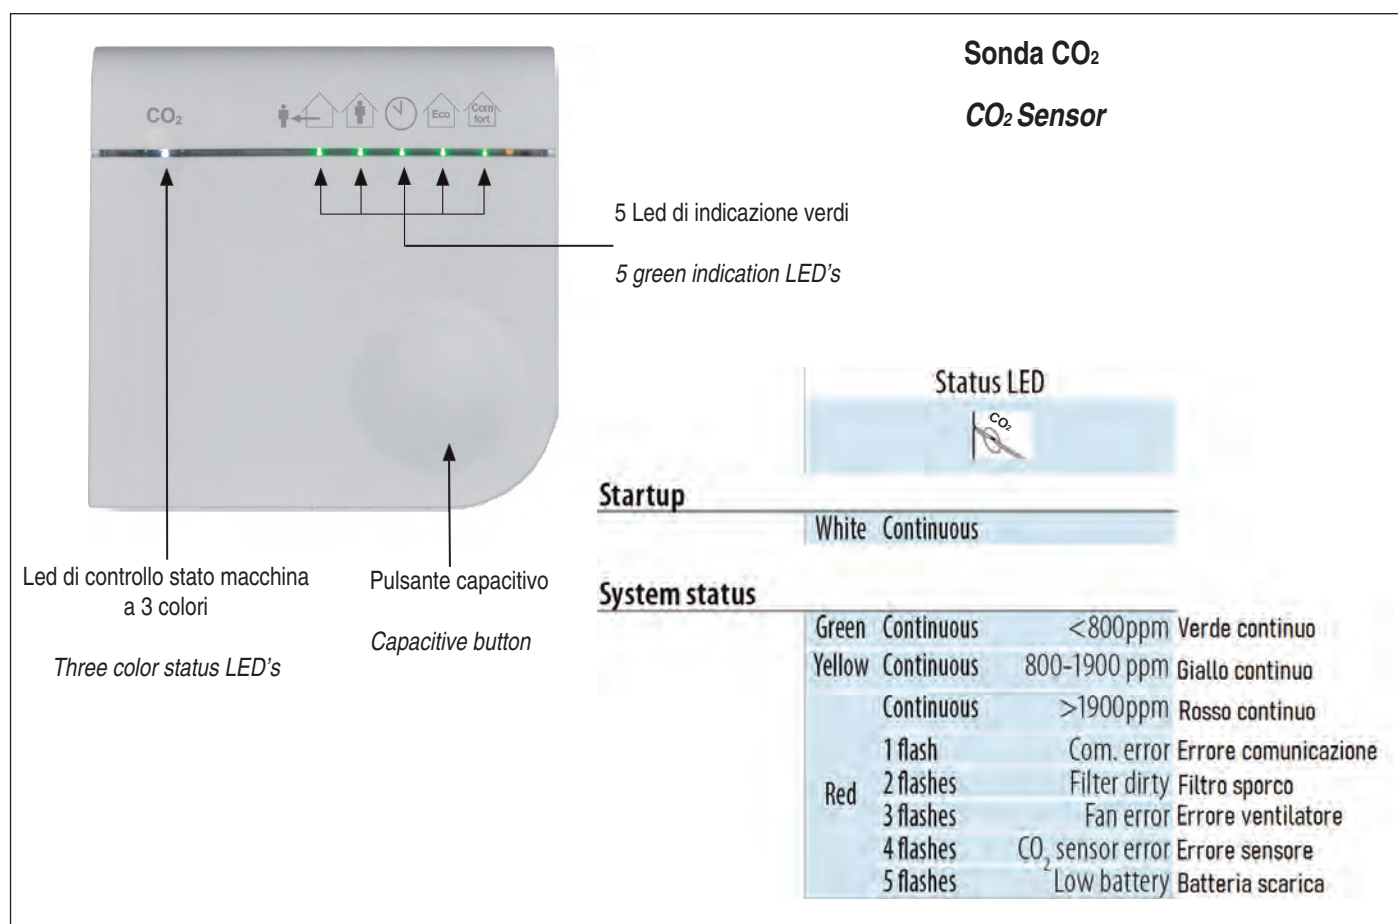
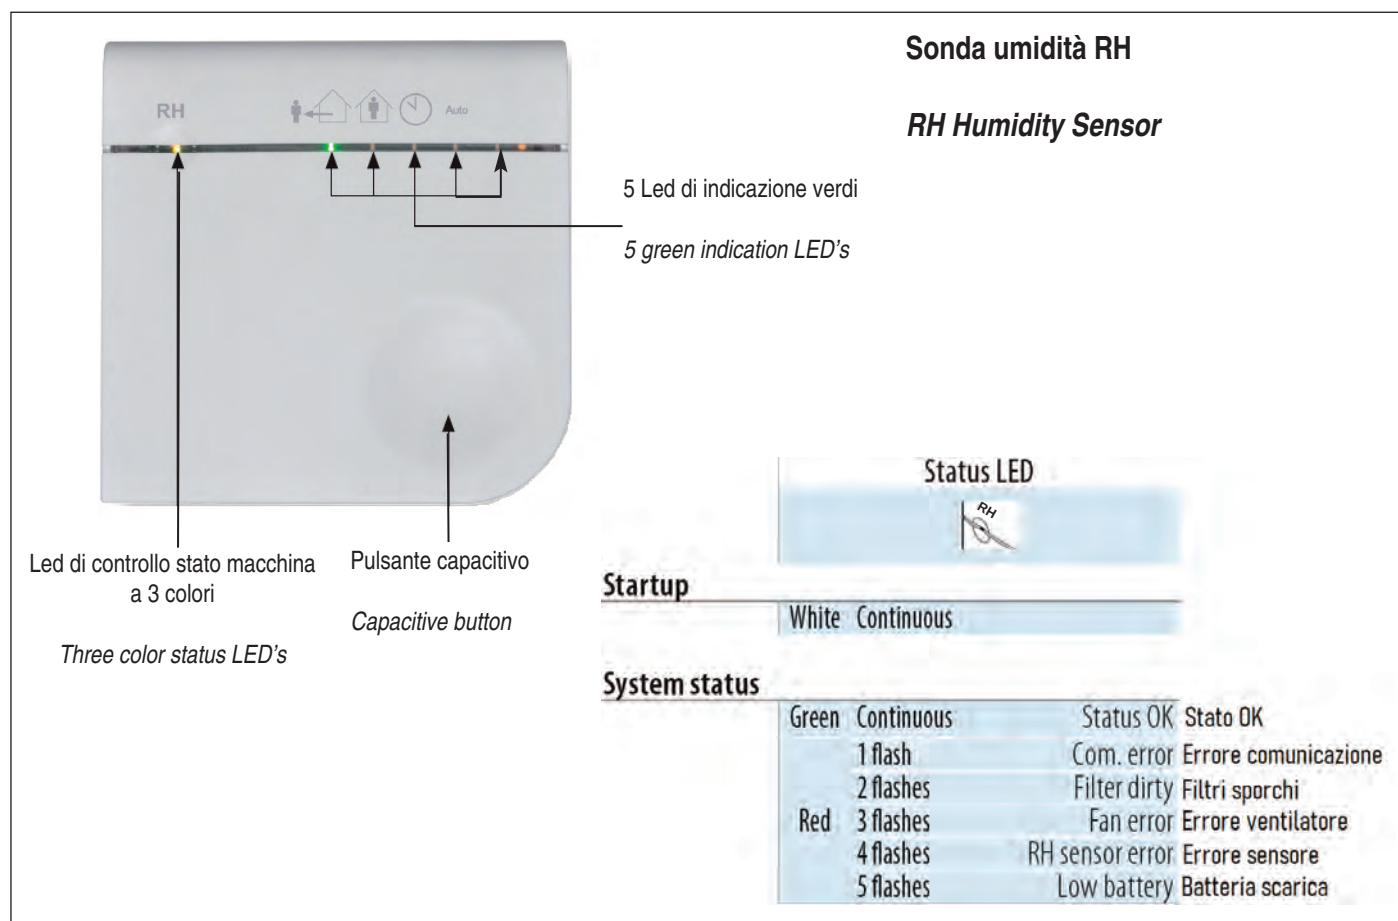

fig. 22
fig. 23
5.5 FUNZIONAMENTO Sonda CO₂ DA PARETE (FIG. 22)
5.6 FUNZIONAMENTO Sonda UMIDITÀ DA PARETE (FIG. 23)
5.5 WALL MOUNT CO₂ SENSOR (FIG. 22)
5.6 WALL MOUNT OR HUMIDITY SENSOR (FIG. 23)
5.8 PROCEDURA MODIFICA VALORI DELLE VELOCITÀ DI FABBRICA CON Sonda UMIDITÀ (FIG. 23) O CON Sonda CO₂ (FIG.22)
5.8 PROCEDURE CHANGE SPEED VALUES OF FACTORY WITH HUMIDITY SENSOR (FIG. 23) OR CO₂ SENSOR (FIG. 22)